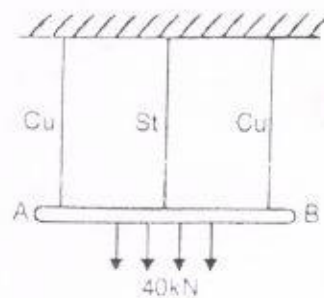

Fig. 2
- Q.2. A A rigid body AB weighing of 40 kN hangs from three wires of equal lengths as shown in Fig. 2. The middle wire is of steel and two outer wires are of copper. If cross-sectional area of each wire is 250 mm^2 . **Determine** load shared by each wire. Take $E_{st}=210 \text{ GPa}$, $E_{cu}=105 \text{ GPa}$.